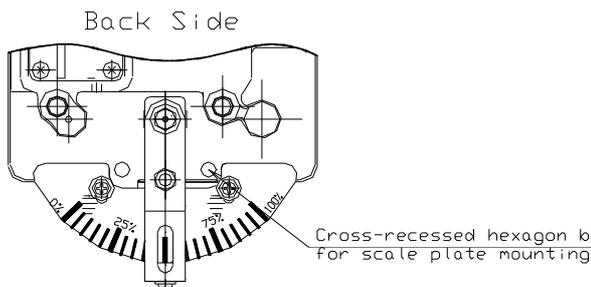

Fig.23. Scale plate (Back side)
- ( 3 ) At the end of start and stop of actuator, confirm needle points 0% and 100% of scale plate respectively. If the needle points others, position the needle by loosening cross recessed hexagon bolt holding scale plate with spanner and sliding the scale plate. (Refer to Figure 23, 24.)